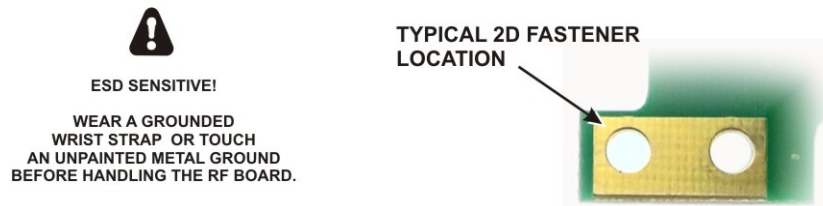
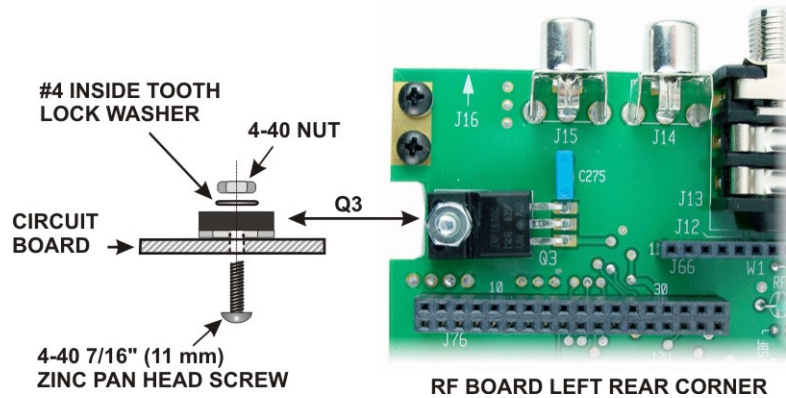
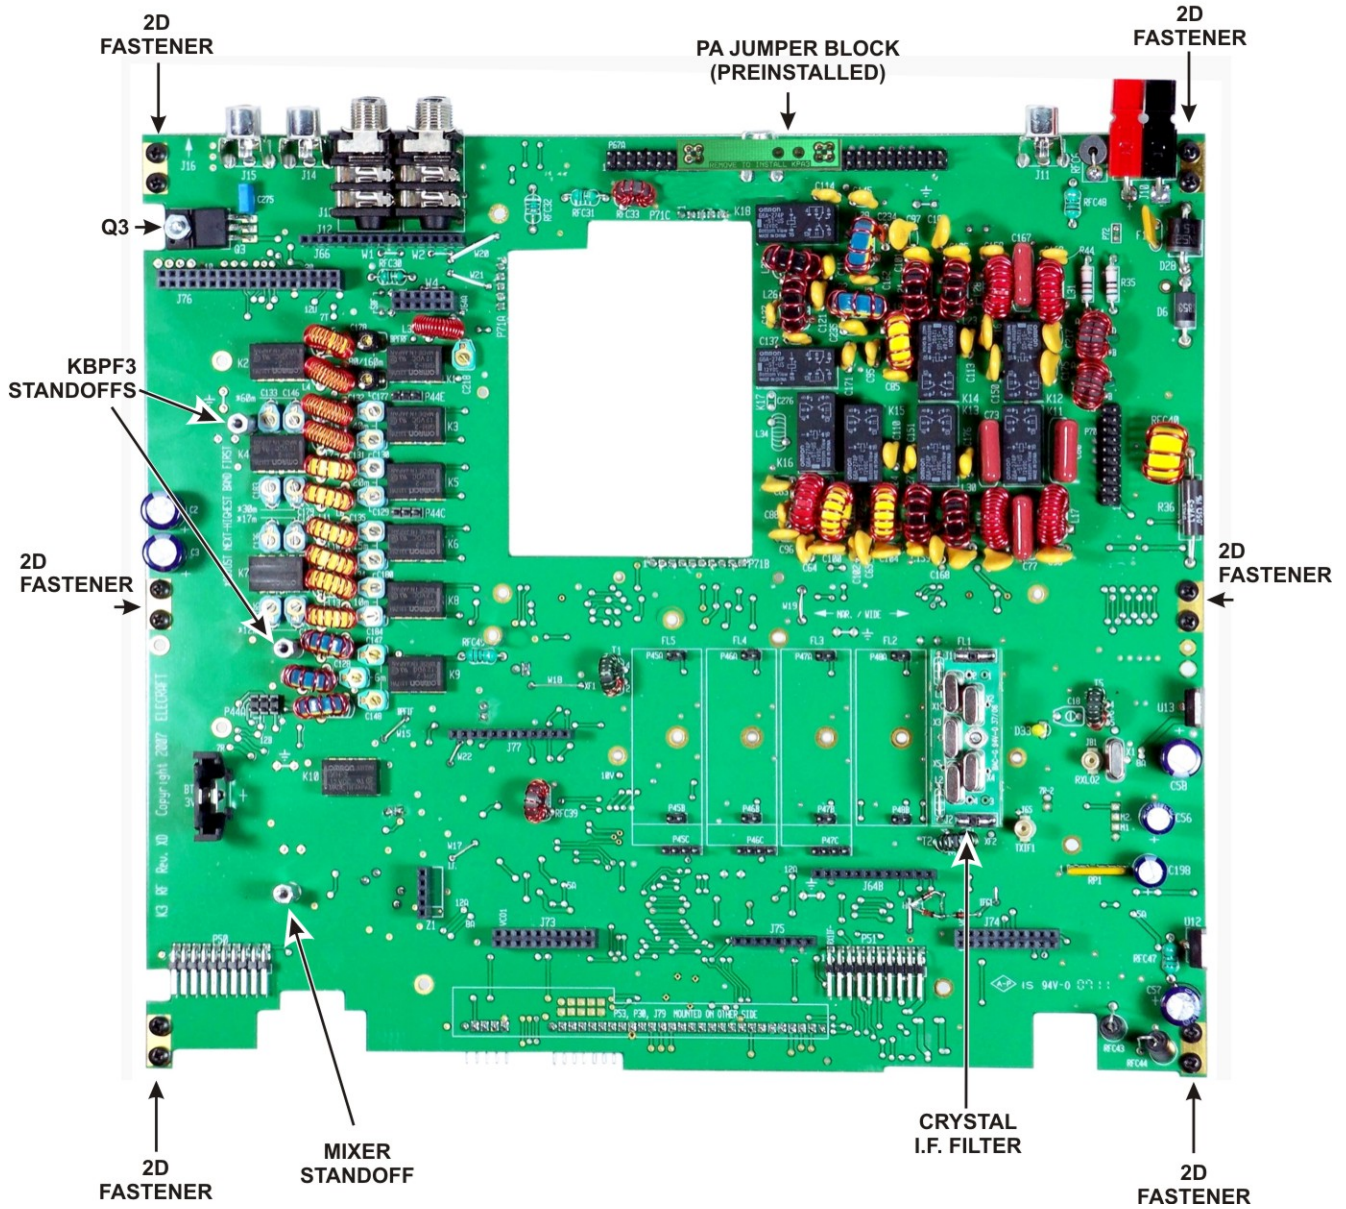

Figure 5. 2D Fastener Location on RF Board.
Figure 9. Installing Q3 Hardware.
Figure 11. RF Board Partially Assembled.
Remove the RF board from its anti-static packaging. The top side of the board is the side with the toroid inductors and relays along with other components, including several connectors along one edge. The edge with the connectors is the back edge of the board, while the front edge has notches cut in it that will fit around front panel controls. Locate the six rectangular bare copper pads for the 2D fasteners (see Figure 5). There is one in each corner of the board and one in the center of each side (see Figure 11 on page 14).
□ Install a 4-40 3/8" (9.5 mm) standoff on the RF board near connector Z1 as shown in below and Figure 11 on page 14. This standoff will support the mixer to be installed later. Install the standoff using *three* lock washers as shown below with two of the lock washers between the standoff and the RF board.
Install hardware to attach Q3 to the RF board near the rear left corner as shown in Figure 9 and Figure 11 on page 14.